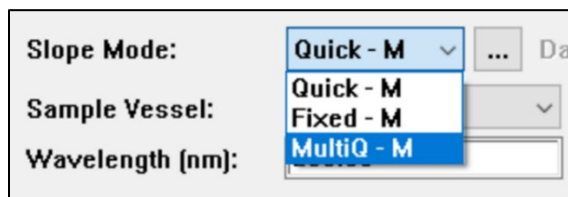

Figure 25. Quick Slope: Slope Mode dropdown menu.
2. Select the Slope Mode dropdown menu and choose Multi-M as the mode, as depicted in Figure 25.